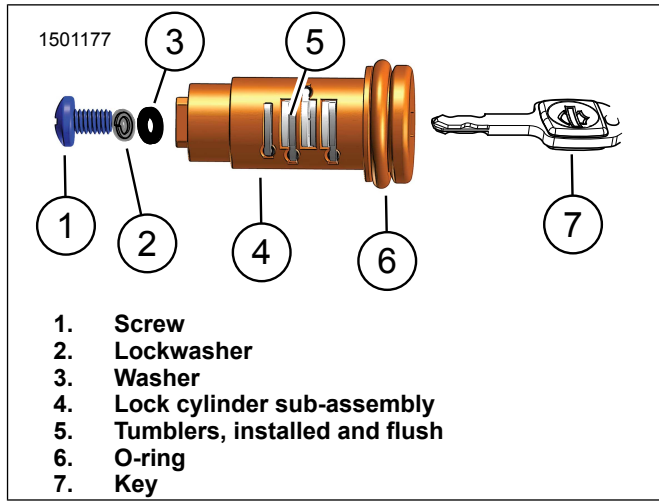

Figure 5. Assembled Lockset
9. Figure 5 While holding tumblers fully in place, install key in assembled cylinder sub-assembly.